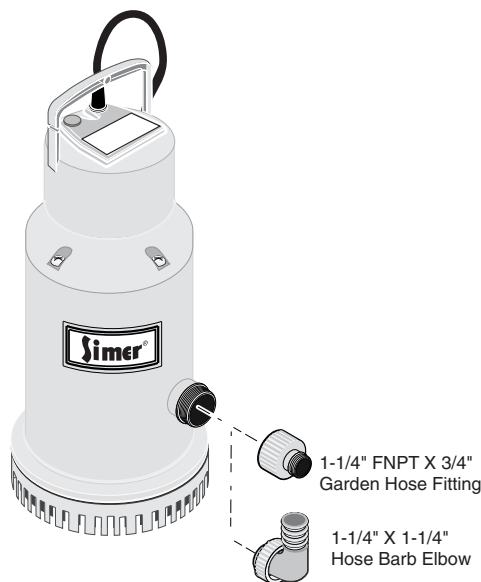

Figure 2: Adapter connections.
3. Choose an adapter and install it as indicated in Figure 2.